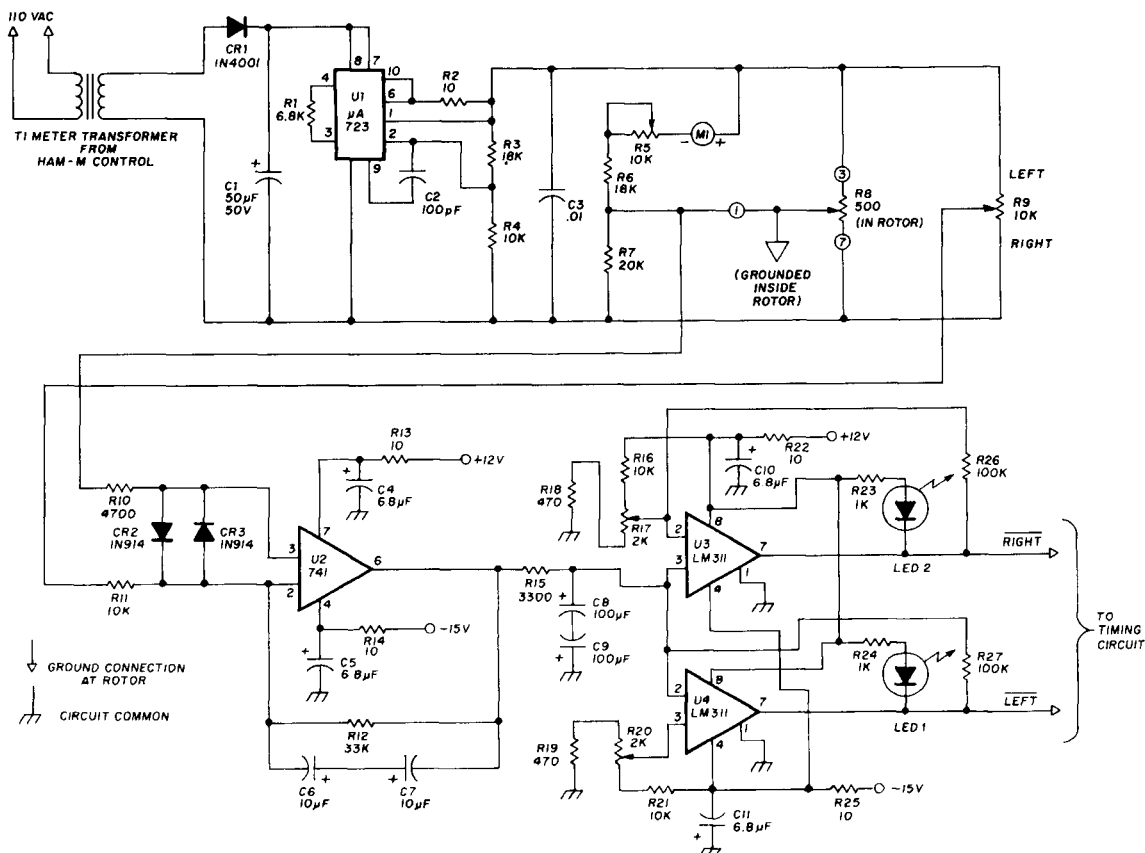
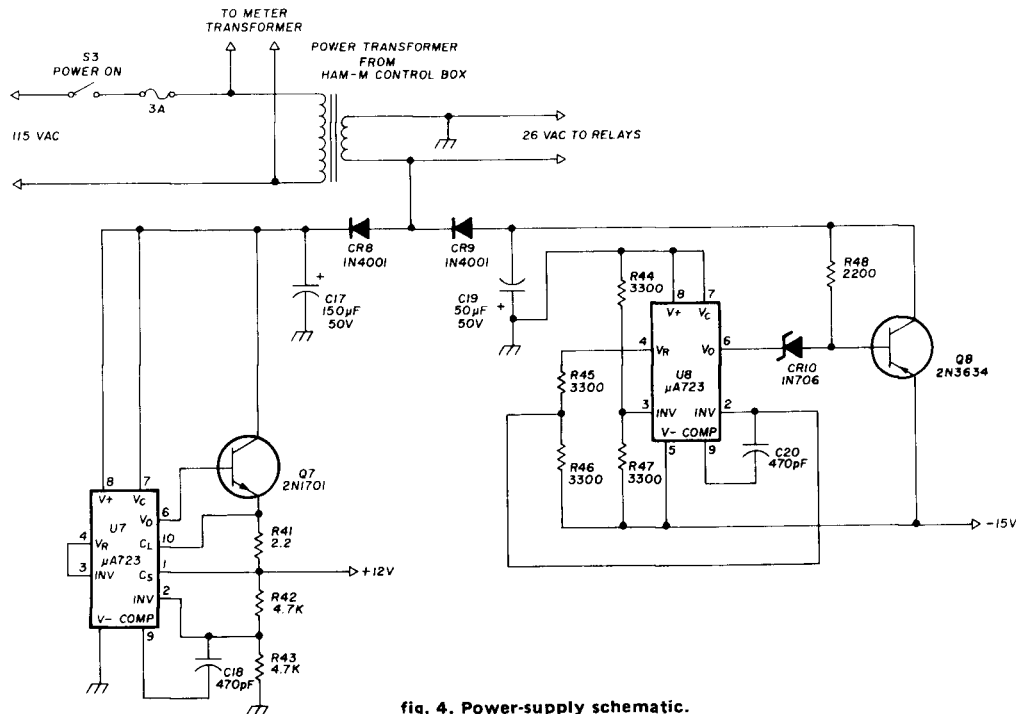

fig. 2. Error amplifier and comparator schematic.
fig. 4. Power-supply schematic.
Fig. 2 is the schematic of the error amplifier and comparators. Since the wiper of R8, the position-sensing pot, is grounded to the rotor housing, a floating power supply is needed. This supply is provided by meter transformer T1 and voltage regulator U1. The meter circuit is the same as in Ham-M design.
**Power supplies.** This control circuit requires three dc power supplies. These are a 20-volt, 60 mA supply for the positioning bridge and meter; (fig. 2) a +12-volt 300 mA supply for the ICs and relays; and a -15 volt supply for the error amplifier and comparators. The +12-volt and -15-volt supplies are shown schematically in fig. 4.